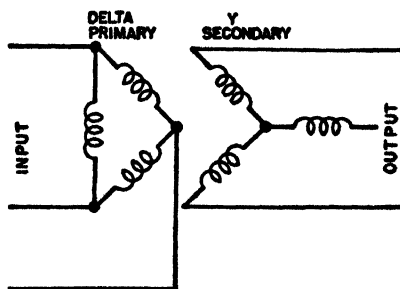

FIG. 4-2.—Delta-star or Y transformer.
**Ans.** Figure 4-2 illustrates a delta-Y-connected transformer.